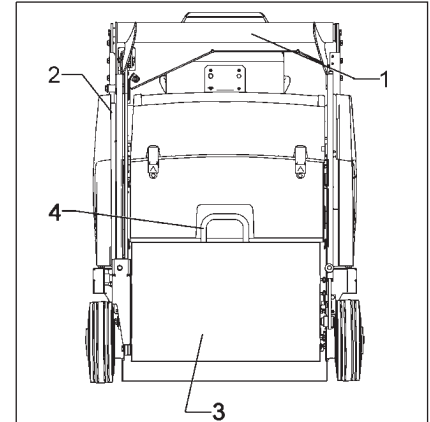

Fig. 12
- Dirt hopper (Fig. 12/3) is lifted-out
Should the dirt hopper not be completely emptied after swinging, proceed to manual shaking with the handle (Fig. 12/4).